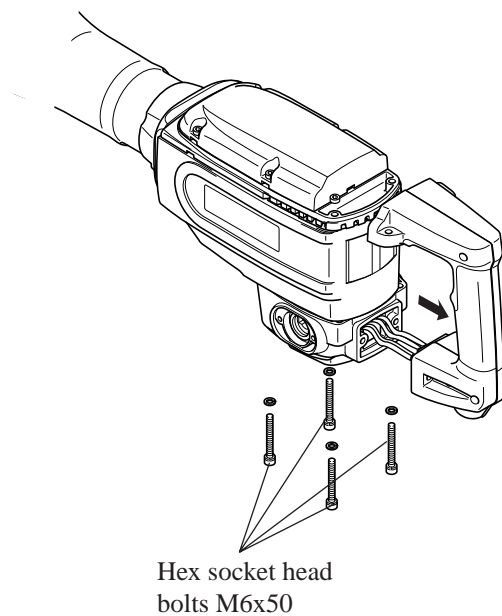

Fig. 4
- (3) Unscrew hex socket head bolt M6x50. See Fig. 4.